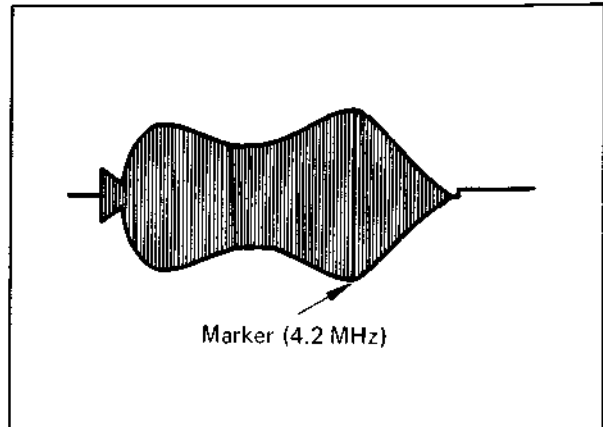

Fig. 5-23 RF sweep (MH-1L)
9. Adjust C33 (EP F2) of the PRE/REC board to position the CH-2 resonance point at the 4.2 MHz marker. Turn R47 (EP Q2) to maximum (fully clockwise). See Fig. 5-23.